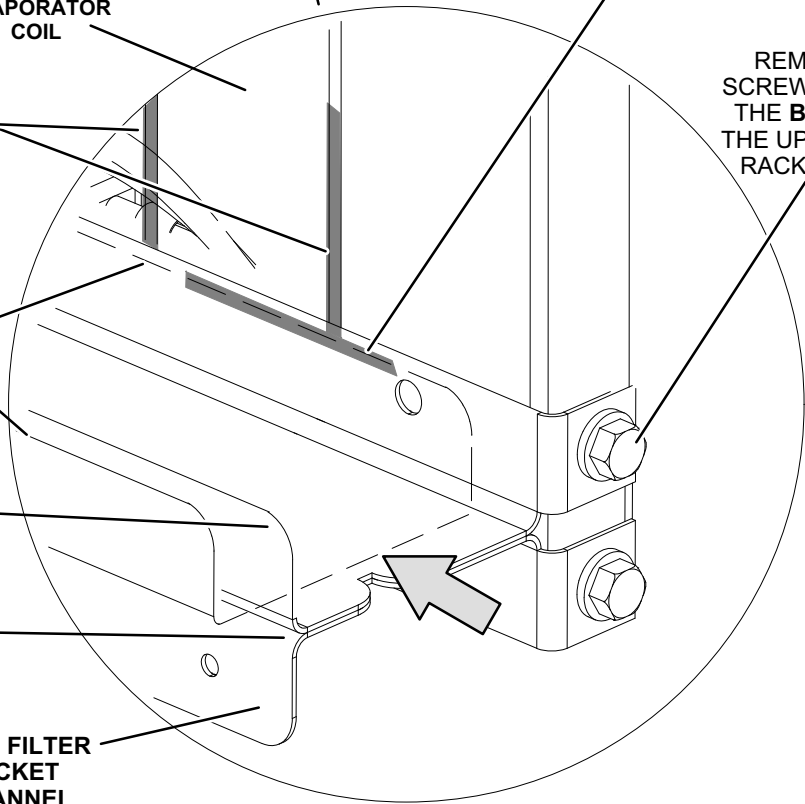

FIGURE 4
- 2- Remove the screw securing the **bottom** of the upper filter bracket. See detail in figure 4.
- 5- Install provided edge protectors. See figure 4 for location.
- 6- Remove the screw securing the **top** of the upper filter bracket. See detail in figure 4.